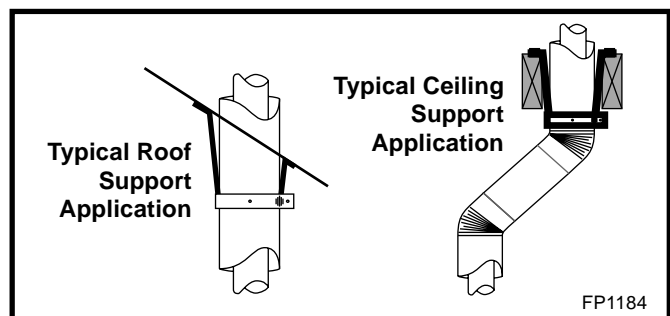

Fig. 36 Venting supports.
7. Install roof support and roof flashing, making sure the upper flange is below the shingles. (Fig. 36)